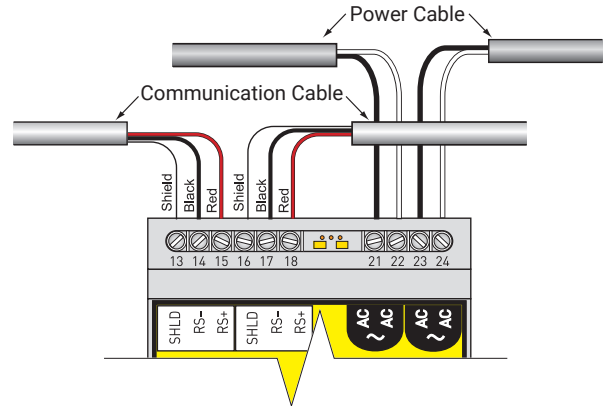

Figure 3. Power and Telemetry Connections
TTSIM-1A communicates all alarm and status messages via RS-485 twisted pair telemetry. Two of the four conductors in the power/telemetry cable are used for telemetry and the other two wires may be used to provide the supply voltage. Alternatively, separate wiring may be used for the supply voltage, as shown in Figure 3.
- Strip the primary wires to expose approximately 6 mm (1/4 in) of conductor and make the following connections: (see Figure 3)